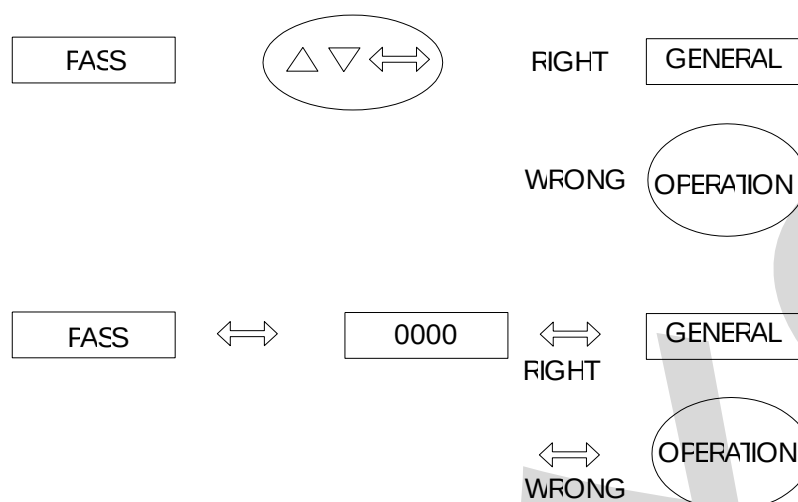

Fig. 10 - Password system by key and by value
- ii) The Module display shows the PASSWORD warning, indicating that the instrument has a password system by key or by value, as illustrated in figure 10.
In case of password by value, the user should press the ENTER key a second time to obtain the number 00000, with the last digit blinking on the right. The blinking digit indicates the position where the digit of a 4-digit number will be entered by the user. In order to move to the next digits on the left, the user should press the ENTER key. After entering all digits, the user can press the ENTER key once more to switch to level 1 in case the password is correct, otherwise the system reverts to normal operation (see figure 10).